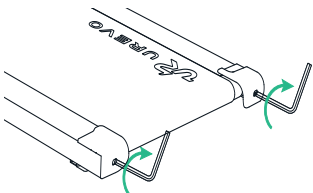

Figure 3
- 2. Using the hex tool, turn both idler roller screws clockwise **1/2** of turn (refer to figure 3).